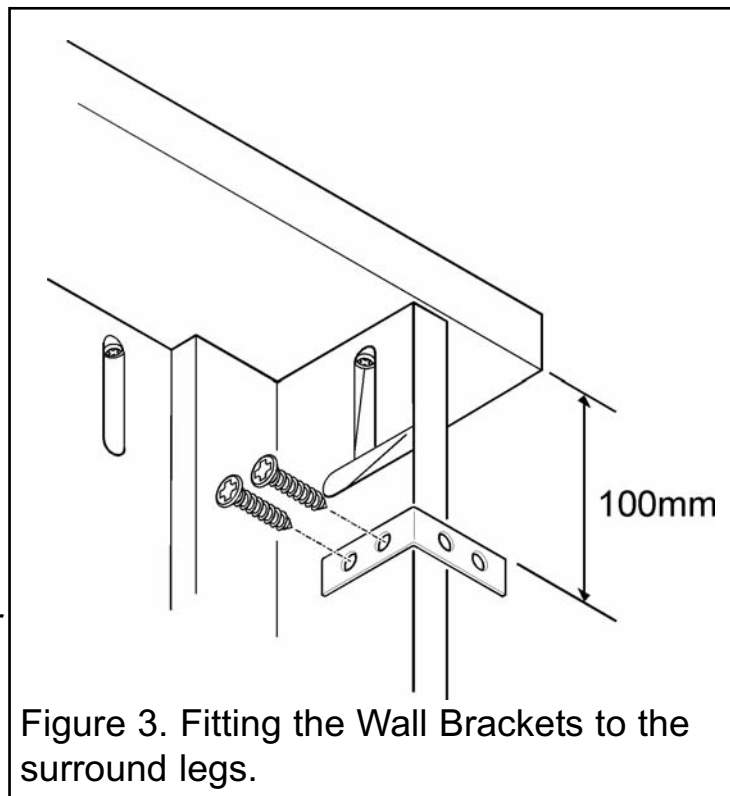

Figure 3. Fitting the Wall Brackets to the surround legs.
Place wall fixing brackets (D) 100mm from the top outside edge of the legs as shown in figure 3. Secure in place using four screws (E).